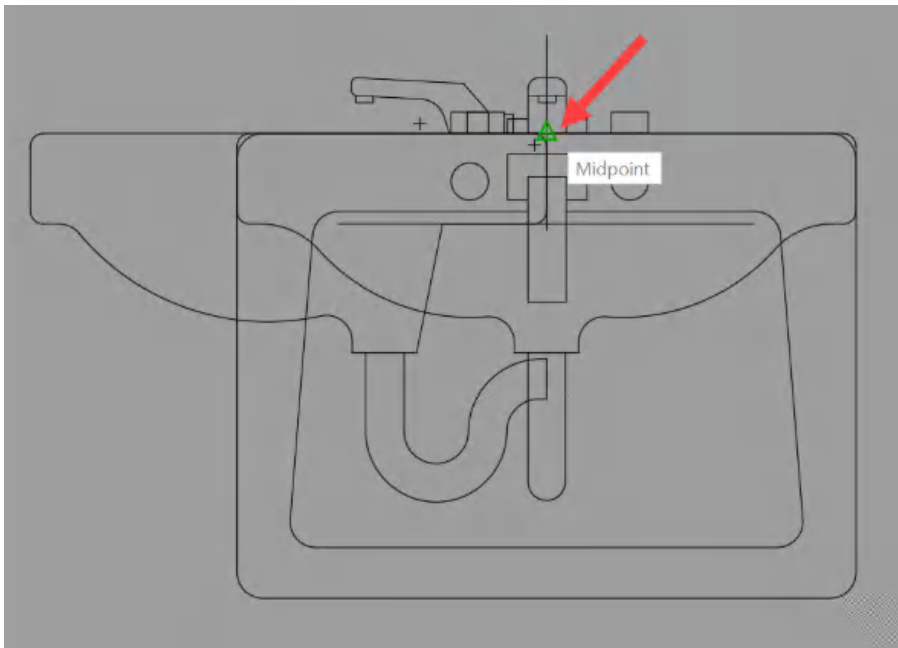

Figure 12.21: The Midpoint object snap used as a Basepoint parameter
2. Select the **Basepoint** parameter. You will be prompted for the location of the base point. Using object snaps, click on the **Midpoint** object snap you used in the previous section to locate the regular blocks, as shown in *Figure 12.21*.